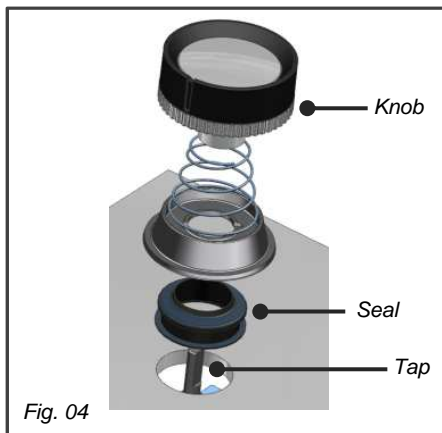

Fig. 04
- **Adjust the hob connections:** these are located underneath the knobs (*Fig. 04*).